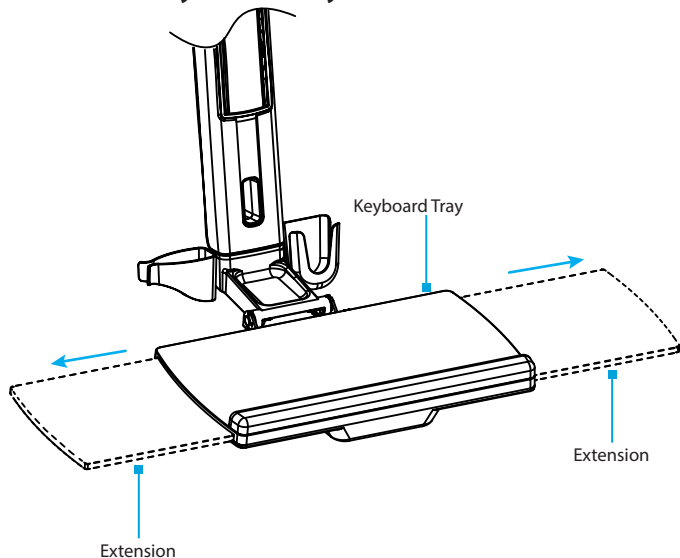

Figure 20
2. Insert the **M6 x 8 mm Screw** through the **Mounting Tab**, located on back of the **VESA Monitor Mount** and into the **Plate**, located on the **Column** and tighten, using the **5 mm Hex Key**. (Figure 20)
- Pull to extend the **Extensions** to the left or right of the **Keyboard Tray**. (Figure 20)